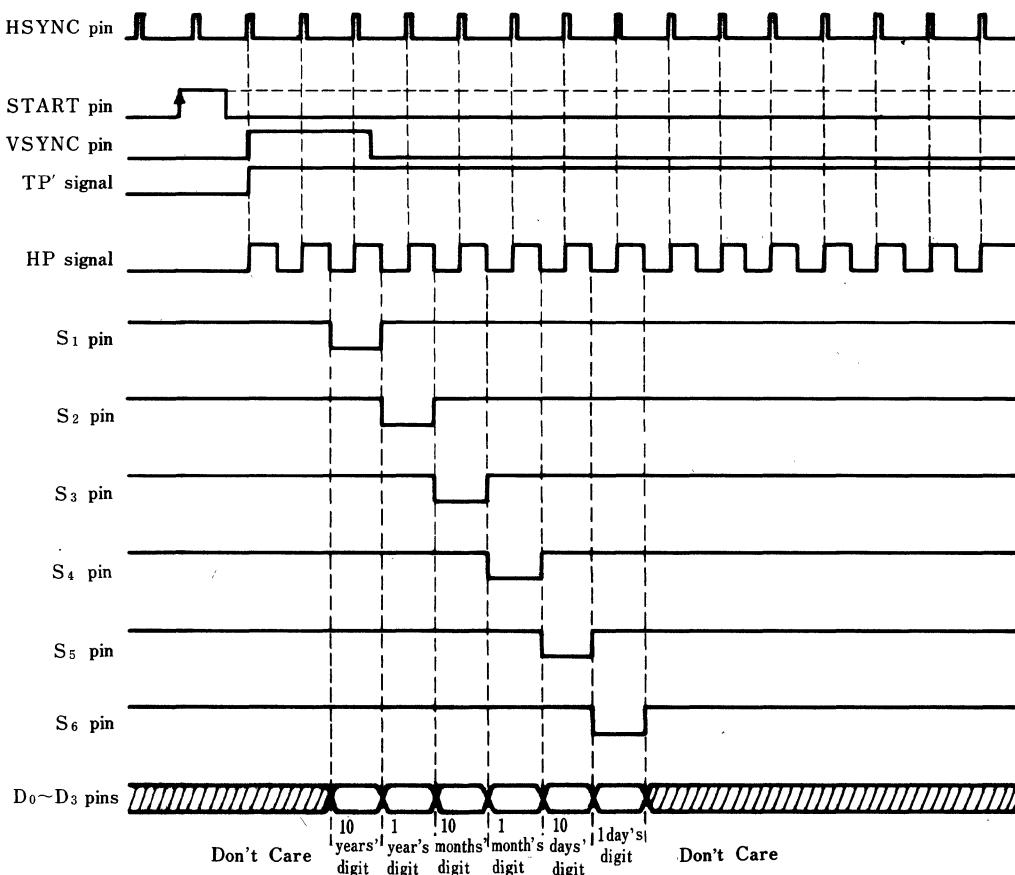
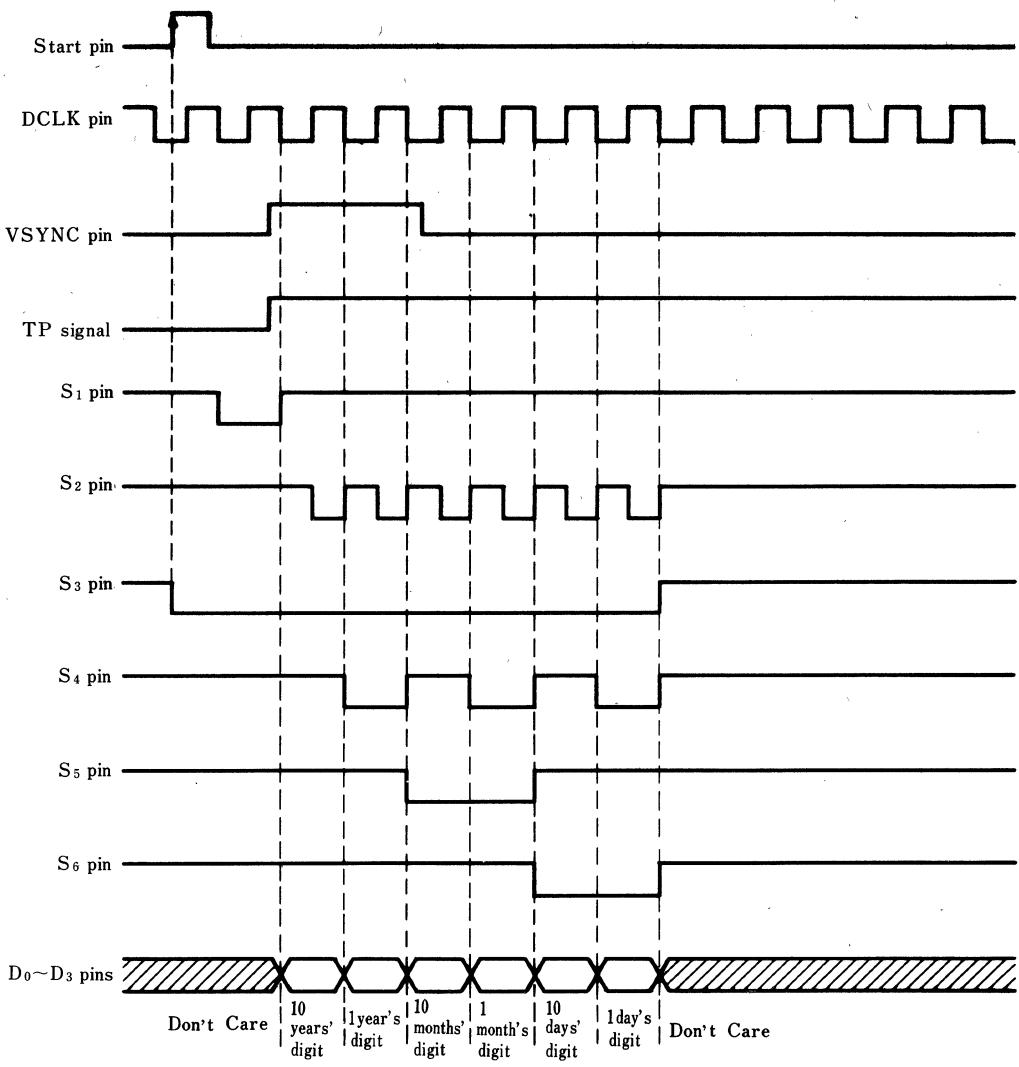

Fig. 1 Data read timing (CNT pin "Low")
Fig. 2 Data read timing (CNT pin "High")
(4) On the top signal going "High", the external data will be read into the LSI with the timing as shown in Fig. 1 and Fig. 2. In the data read timing chart, the CR time constant of the TCR pin (or TP signal output time) is shown to be long enough compared to the vertical sync signal cycle (longer than 2 cycles). With the CR time constant of the TCR pin short (shorter than the vertical sync signal cycle), the complete external data cannot be read into the LSI.